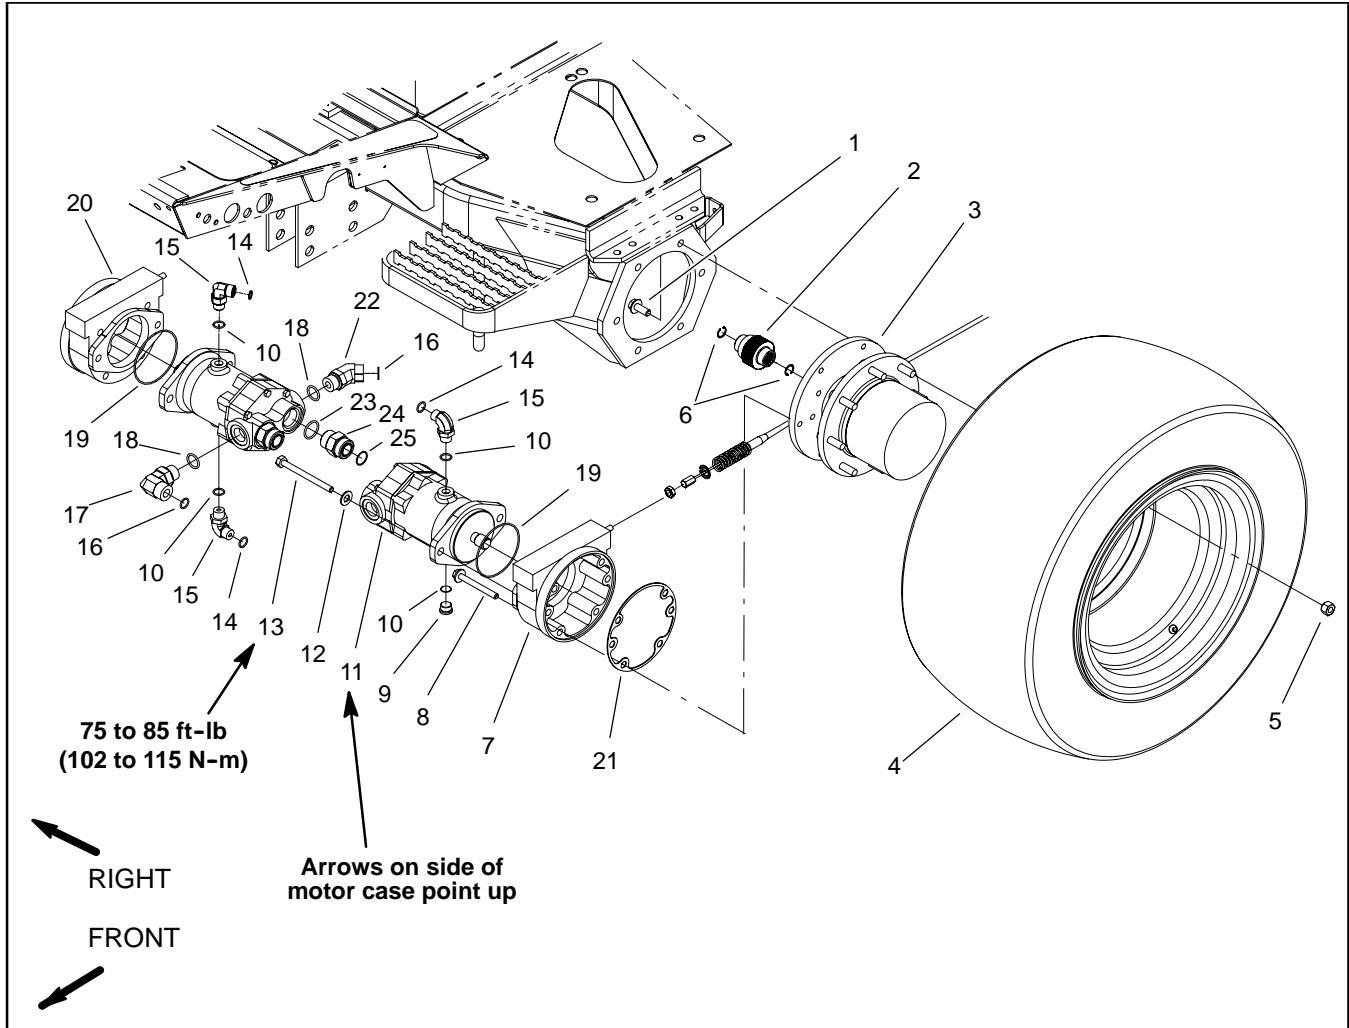

Figure 70
Removal (Fig. 70)
6. Remove wheel motor using Figure 70 as a guide.
Installation (Fig. 70)